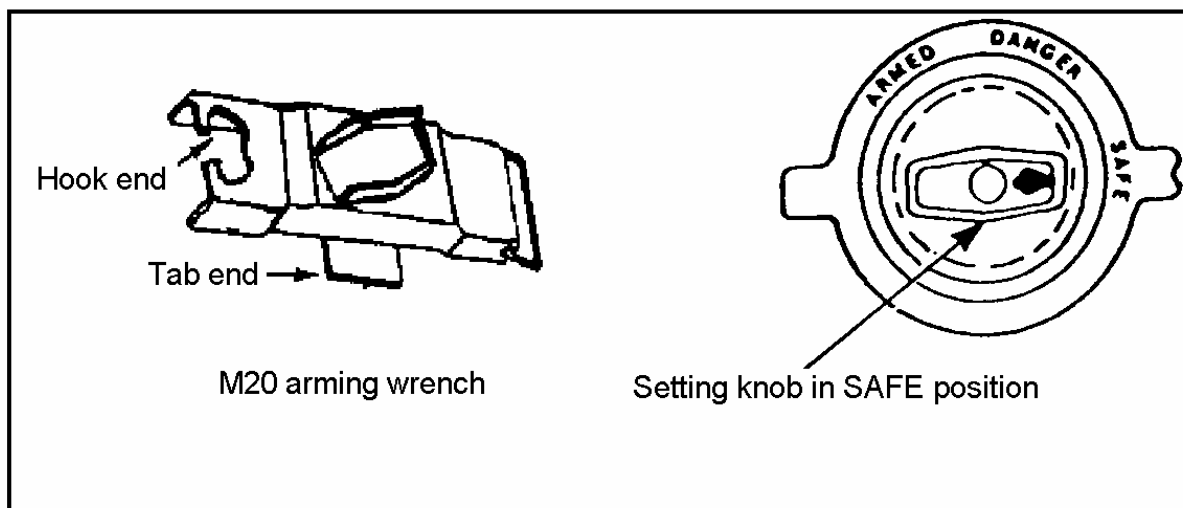

Figure 052-192-1108-1
- d. Use the M20 arming wrench to turn the setting knob to the SAFE (S) position (Figure 052-192-1108-1).